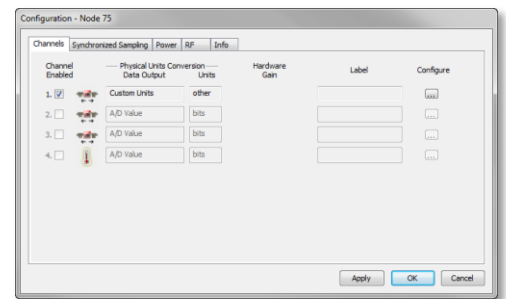

Figure 6: Node Configuration window
3. Click Configure Node and the Node Configuration window appears (Figure 6).